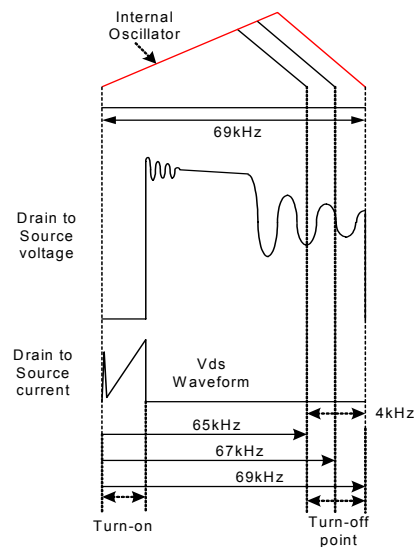

Figure 11. Frequency Modulation Waveform
7. Frequency Modulation : EMI reduction can be accomplished by modulating the switching frequency of a switched power supply. Frequency modulation can reduce EMI by spreading the energy over a wider frequency range than the band width measured by the EMI test equipment. The amount of EMI reduction is directly related to the depth of the reference frequency. As can be seen in Figure 11, the frequency changes from 65kHz to 69kHz in 4ms for the FSDM0365RN. Frequency modulation allows the use of a cost effective inductor instead of an AC input mode choke to satisfy the requirements of world wide EMI limits.